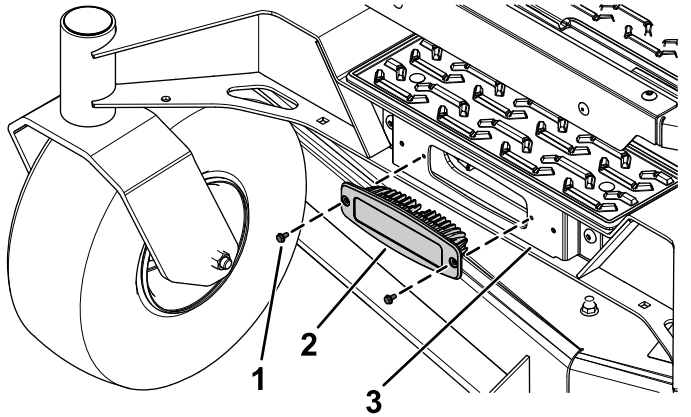

Figure 2
1. Secure the light to the light bracket using the 2 hex-washer head screws (Figure 2).